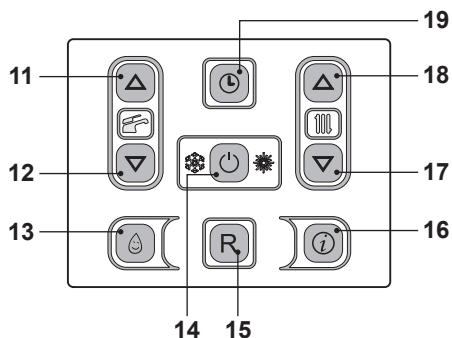

Fig. 2.7
Enter "programming mode" by holding down key 19 for 5 seconds (Fig. 2.7) until
Use keys 17 (decrease) and 18 (increase) Fig. 2.7 to set the time, day and date values, using keys 11 and 12 to move from one parameter to the next.
- Press the key 14 for 2 seconds until both  and  symbols appear on the display Fig. 2.7.